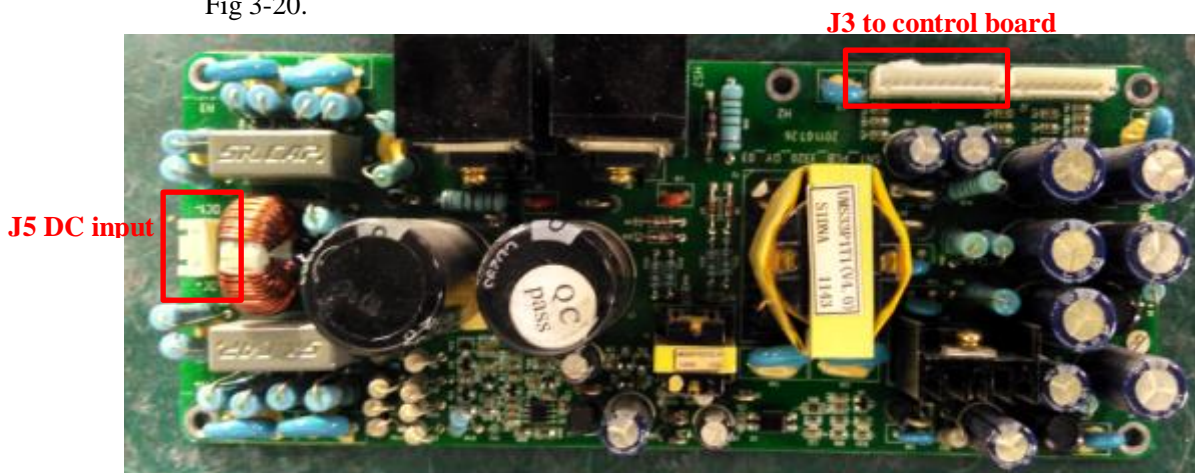

Fig 3-20 SMPS
3.4.2 Service mode for 3 phase UPS. PCB code: 17001-00746, same DC input, as is shown in Fig 3-20.